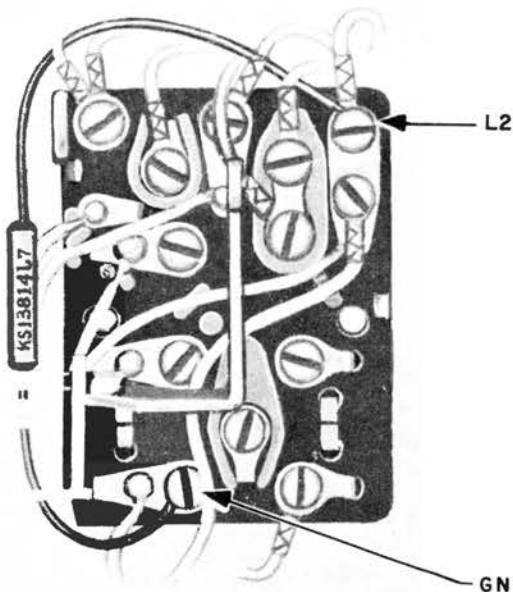

Fig. 9 - 500J, K or 501J, K Telephone Set, KS-13814, List 7 Capacitor Installed
4.06 The KS-13814, List 7 capacitor is installed in the 500J, K and 501J, K telephone sets as shown in Fig. 9. It is connected across the L2 and GN terminals of the 425A network as shown. Place the capacitor against the side of the network nearest the ringer. Cover the exposed portions of the capacitor leads with tubular insulation.